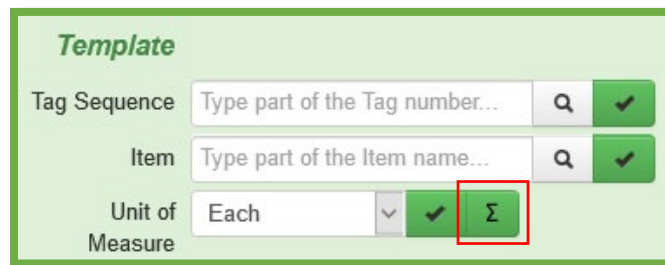

Figure 7: Auto-Sum Button in Packages Template
Users will now have a new button within the packages template that will allow for all new package quantities to be “Auto-Summed” from the source package. This button in **Figure 7** functions exactly as the Auto-Sum button does for each individual new package. Meaning, if a licensee has one source package of one hundred (100) cookies, and that licensee wanted to create ten (10) delivery packages of ten (10) cookies each. Then the source package would be the same for all ten (10) new packages. The quantity removed from the source package would be set to ten (10) each. The auto sum button when selected would populate each new package with ten (10) cookies for the quantity.